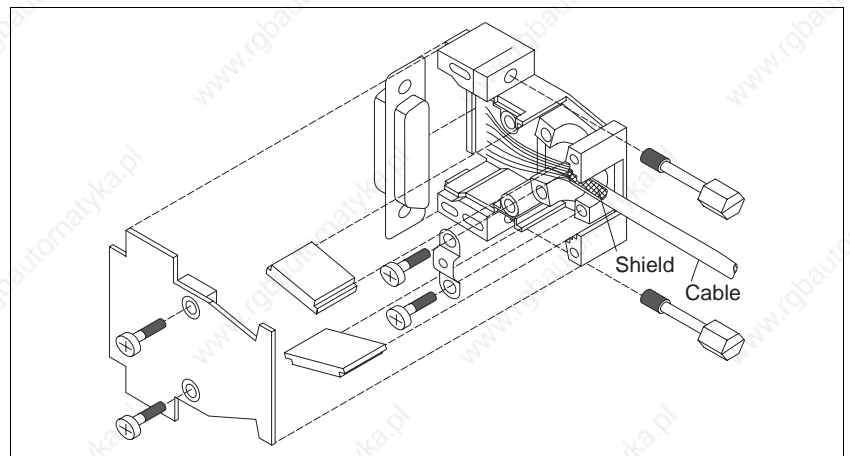

Fig. 2-14 Interface connector assembly
3. Insert two hexagon head bolts (fig. 2-14) into the connector shell.